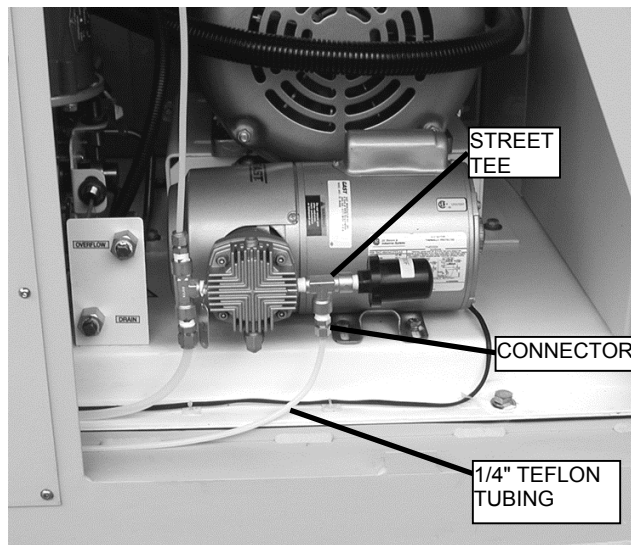
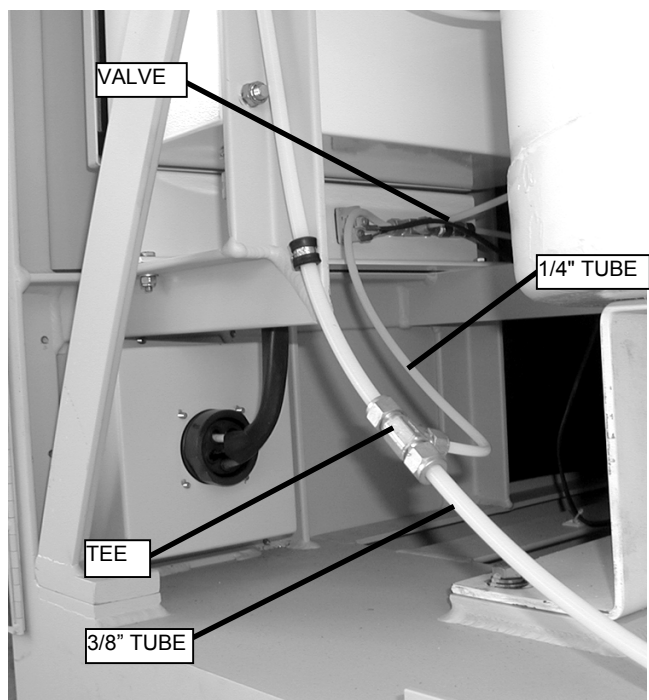

Figure 33. Sample/Cal Valve Tubing at Vacuum Pump.
Figure 32. Sample/Cal Valve Tubing.
- h. Remove the 1/4" tube from the branch side of the tee (see Figure 32), or if there is no tee, remove the 1/4" tube from the street tee connector on the vacuum pump (see Figure 33).